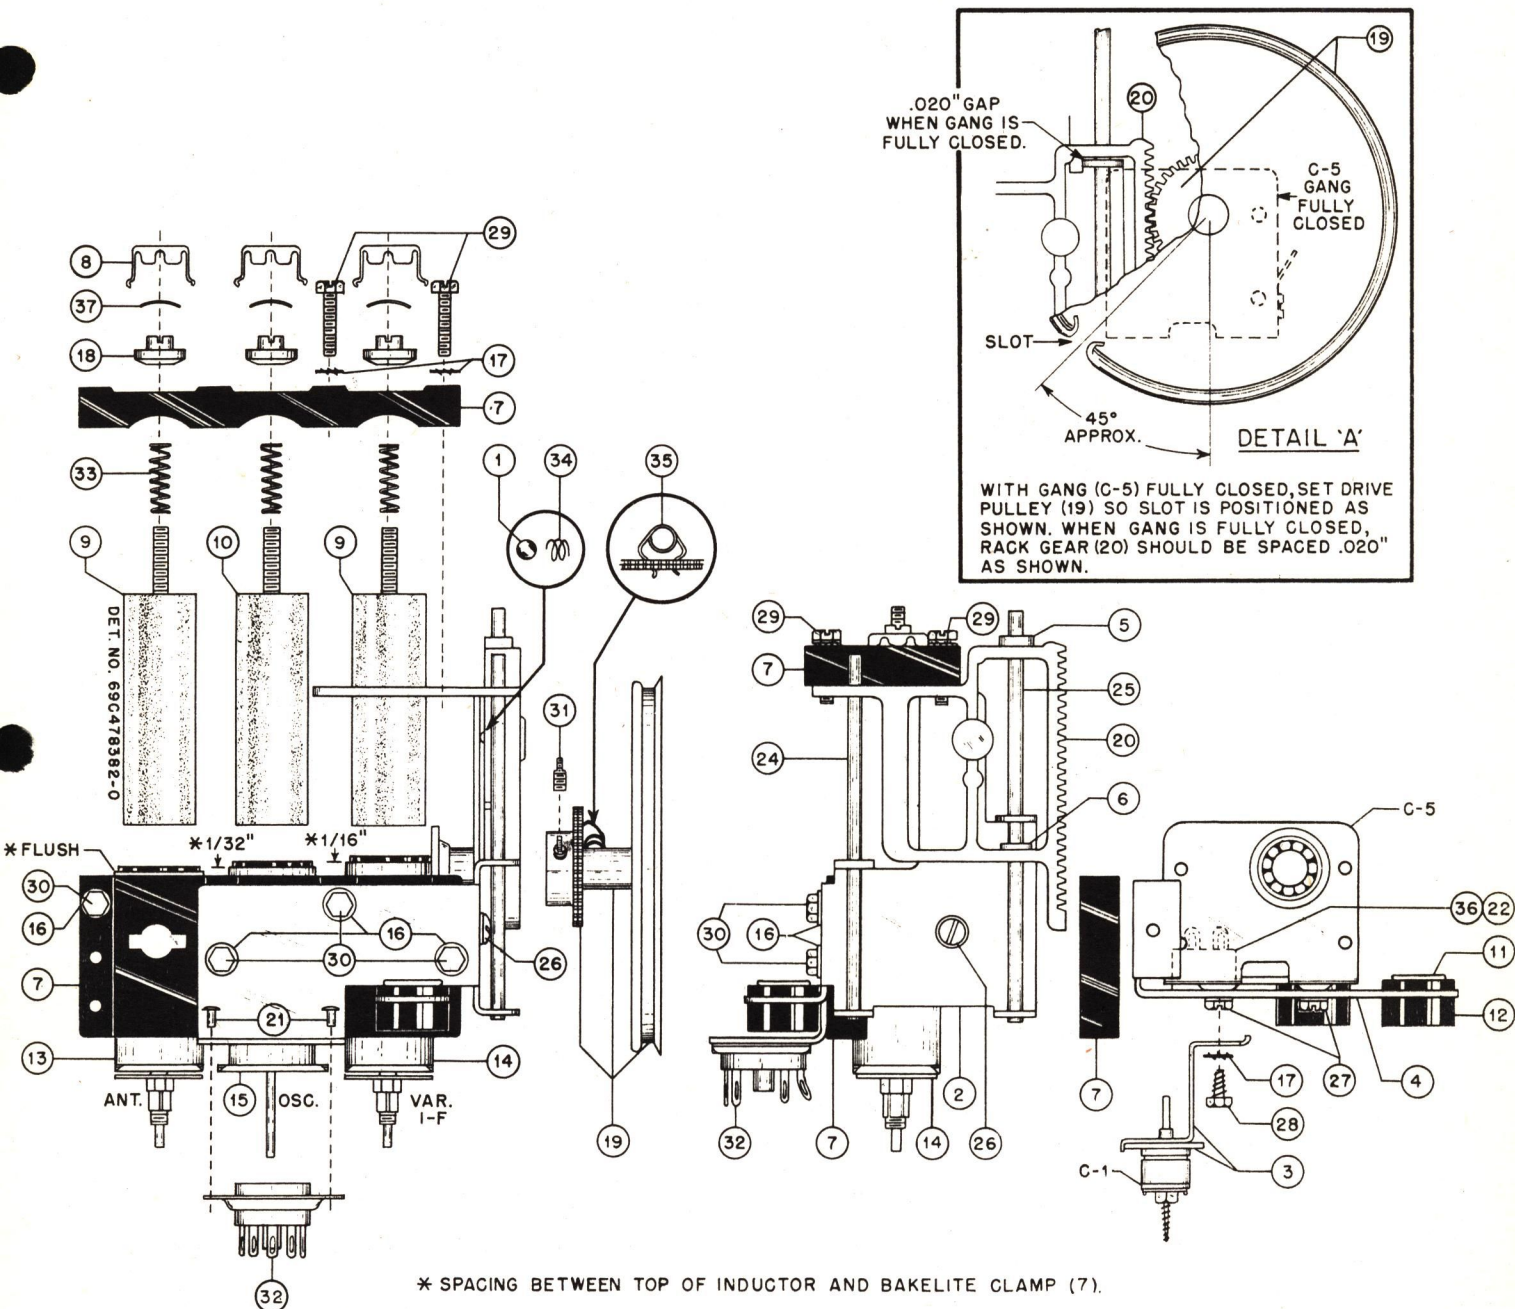

FIGURE 4. PARTS LOCATION
Below are instructions and methods for replacing the integral parts of the Tuner. Although this paragraph does not include instructions for all of the replaceable parts, the instructions are explicit enough to guide and assist the service man whenever it becomes necessary to replace any part that becomes faulty. A short analysis of the Tuner mechanism by the service man before attempting any replacement is highly recommended. It will be noticed that it is necessary, in some cases, to remove the Tuner from the chassis before making the replacement. Since it entails disconnecting leads, removing the Tuner from the chassis should be avoided, unless it is an absolute necessity. Many parts, such as cores, dial pulley, tuning gang and top core clamp, can be replaced without removing the Tuner from the chassis. A constant reference to Figure 4 will be necessary for the exact location of the component parts. Also, it will be necessary to refer to the specific receiver service manual for dial cord restringing instructions and alignment procedure. Of course, alignment of the FM and BC circuits will be necessary if the gang capacitor, iron cores, inductors, or trimmers are replaced, or if the position of the iron cores or inductors have changed in the Tuner.
1. The gang capacitor (C-5) must be positioned by means of its mounting screws (27) so that the drive pulley split gear (19) engages the rack gear (20) properly.
2. To eliminate play between the drive pulley and rack gear, it is necessary to offset the drive pulley split gear so that the torsion spring (35) will exert tension against the two halves of the split gear.
3. Before tightening the drive pulley setscrews (31) make sure that you position the drive pulley (19) as shown in Figure 4 - Detail A. With gang capacitor (C-5) fully meshed, the perm tuning cores should be spaced .020 as shown.